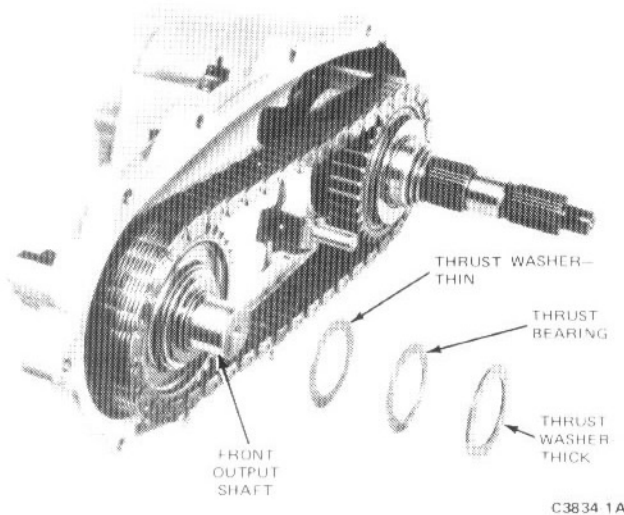

FIG. 8 Removing Front Output Shaft Washers Assemblies
7. Slide the thick thrust washer, thrust bearing and thin thrust washer off the front output shaft assembly (Fig. 8).